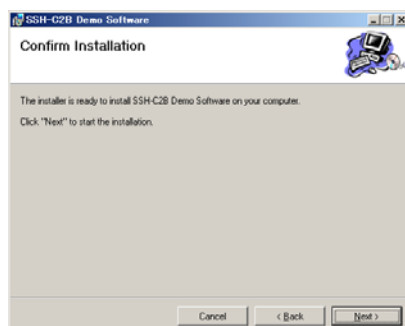

Fig.5-3
4. In clicking [Next>] in the next window(Fig.5-3)installation begins.